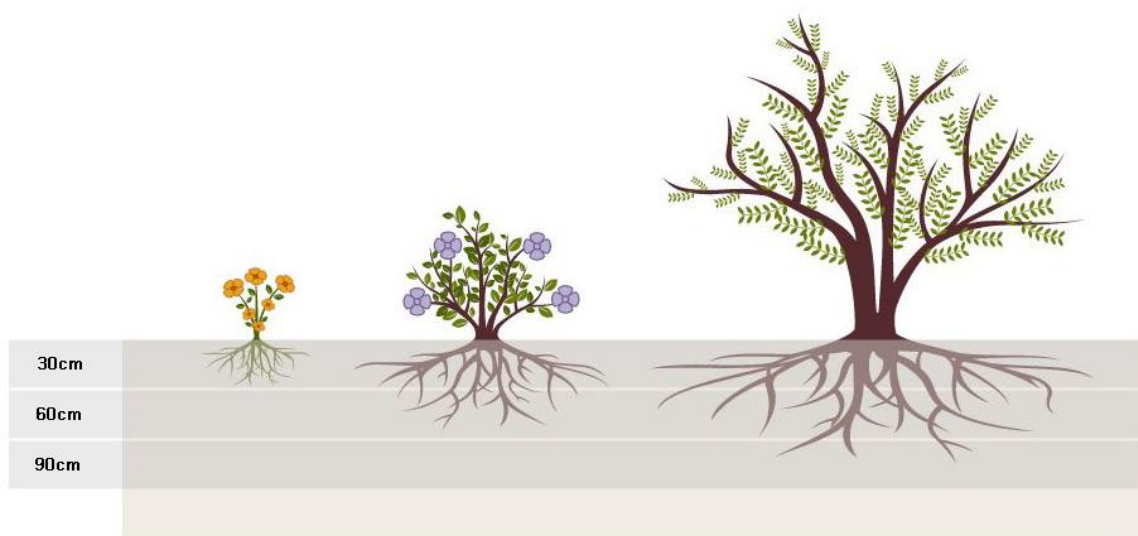

Figure 3: Watering Depth per plant type
- Maintaining the desired level of moisture necessary to maintain vigorous and healthy growth. The quantity of water applied at one time shall be sufficient to penetrate the soil to a minimum depth of approximately 500mm, where appropriate, and at a rate that will prevent saturation of the soil (See Figure 3 for appropriate watering depth levels)